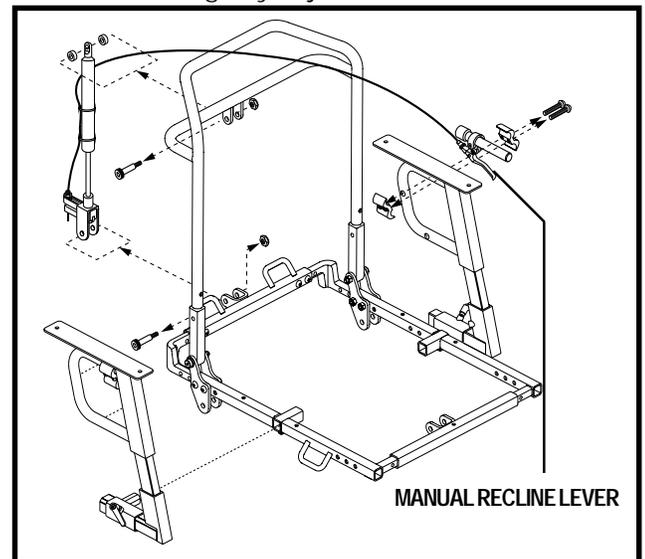

Figure 14. Manual Recline Seatback Adjustment
1. With your back pressed firmly against the seatback, squeeze the manual recline lever mounted to the armrest. See figure 14.
7. Remove the manual recline lever assembly and insert it into the clamp assembly on the opposite armrest. See figure 14.